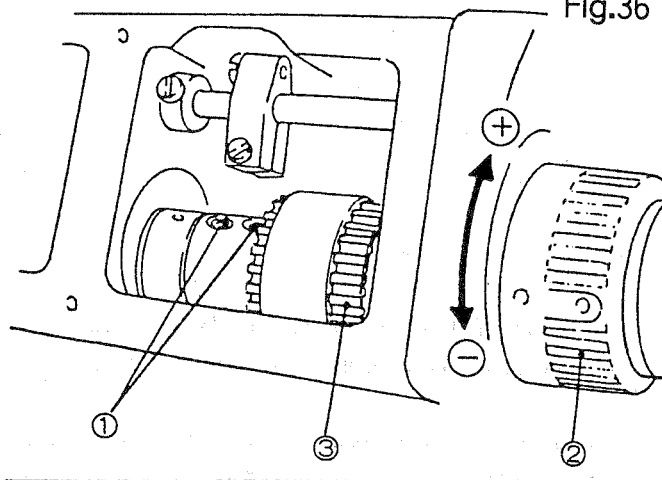

Fig.37
- (2) Timing of the looper front-to-back motion in relation to the needle up-and-down motion (Fig.37)